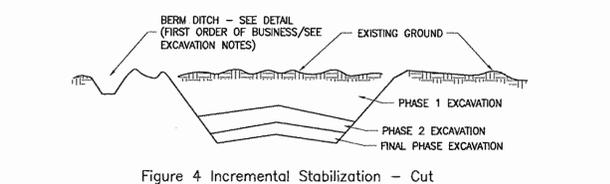

Figure 4 Incremental Stabilization - Cut
- A mulch anchoring tool is a tractor draw implement designed to punch and anchor mulch into soil surface a minimum of two (2) inches. This practice is most effective on large areas, but is limited to flatter slopes where equipment can operate safely. If used on sloping land, this practice should be used on the contour if possible.
- Construction sequence (refer to Figure 4 below):
- Excavate and stabilize all temporary swales, side ditches, or berms that will be used to divert runoff around the fill. Construct Slope Silt Fence on low side of fill as shown in Figure 4, unless other methods shown on the plans address this area.